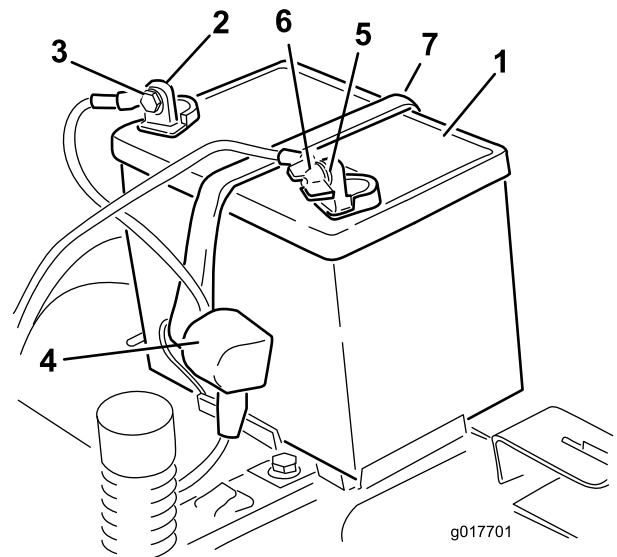

Figure 38
4. Disconnect the negative (black) ground cable from the battery post (Figure 38).
6. Disconnect the positive (red) cable from the battery post (Figure 38).
7. Remove the battery hold-down and lift the battery from the battery tray (Figure 38).
1. Position the battery in the tray (Figure 38).
5. Secure the battery with the hold-down (Figure 38).